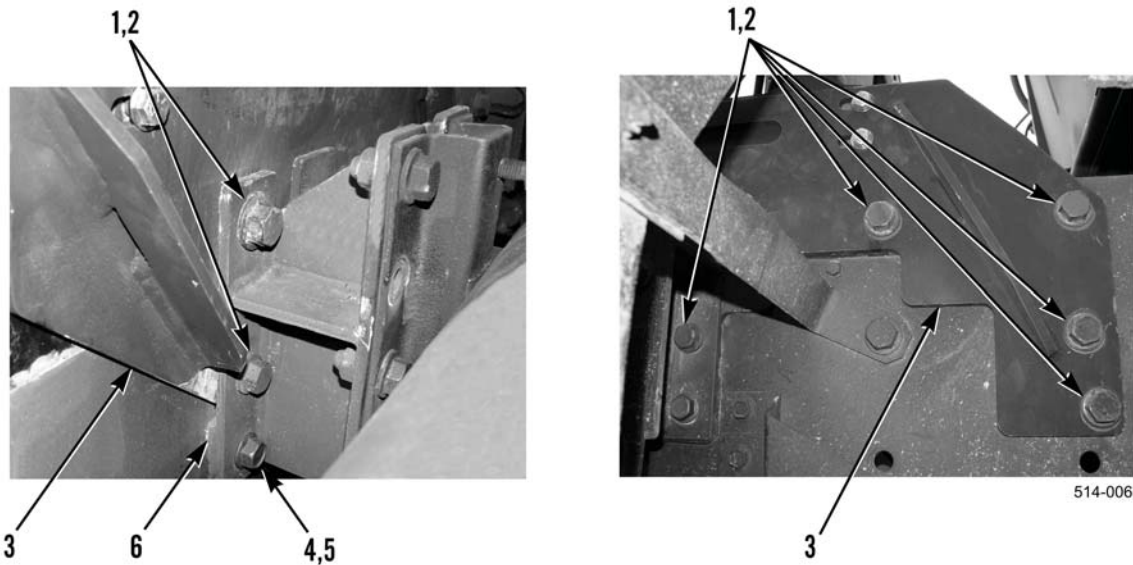

Figure 11. PLS Bracket Removal.
1. Remove seven nuts (Figure 11, Item 1), bolts (Figure 11, Item 2), and PLS bracket (Figure 11, Item 3) from vehicle.
2. If damaged, loosen nut (Figure 11, Item 4) and bolt (Figure 11, Item 5) and remove shim (Figure 11, Item 6) from vehicle.
1. If removed, install shim (Figure 11, Item 6) and tighten bolt (Figure 11, Item 5) and nut (Figure 11, Item 4) on vehicle.
2. Install PLS bracket (Figure 11, Item 3), seven bolts (Figure 11, Item 1), and nuts (Figure 11, Item 2) on vehicle.